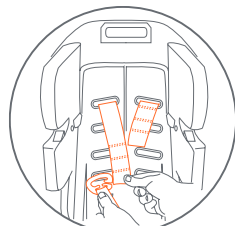

Fig. 29-2
5. Turn the seat over. Locate the Belt Adjuster Plate near the bottom of the seat (Fig. 29-2). Remove both Harness Straps from the Belt Adjuster Plate. From the front of the seat, pull the Harness Straps through the shoulder area slots and seat pad. Never remove adjuster from Belt Adjuster Plate (Fig. 30-1).